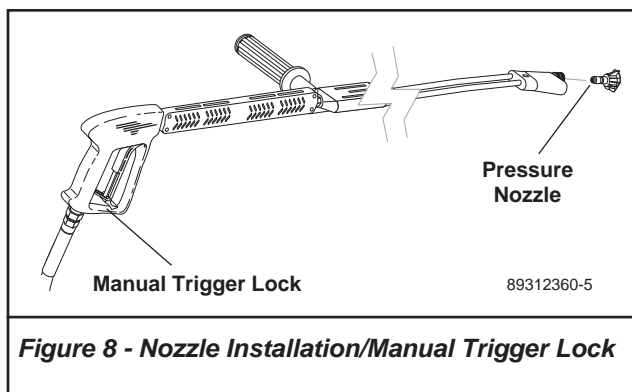

Figure 8 - Nozzle Installation/Manual Trigger Lock
7. Install the proper pressure nozzle for your cleaning needs on end of wand, refer to **Figure 8**.
IMPORTANT: The trigger gun provided with this pressure washer is equipped with a manual trigger lock to prevent accidental operation of the trigger gun, refer to **Figure 8**. The manual trigger lock should be used whenever the trigger gun is not in use.